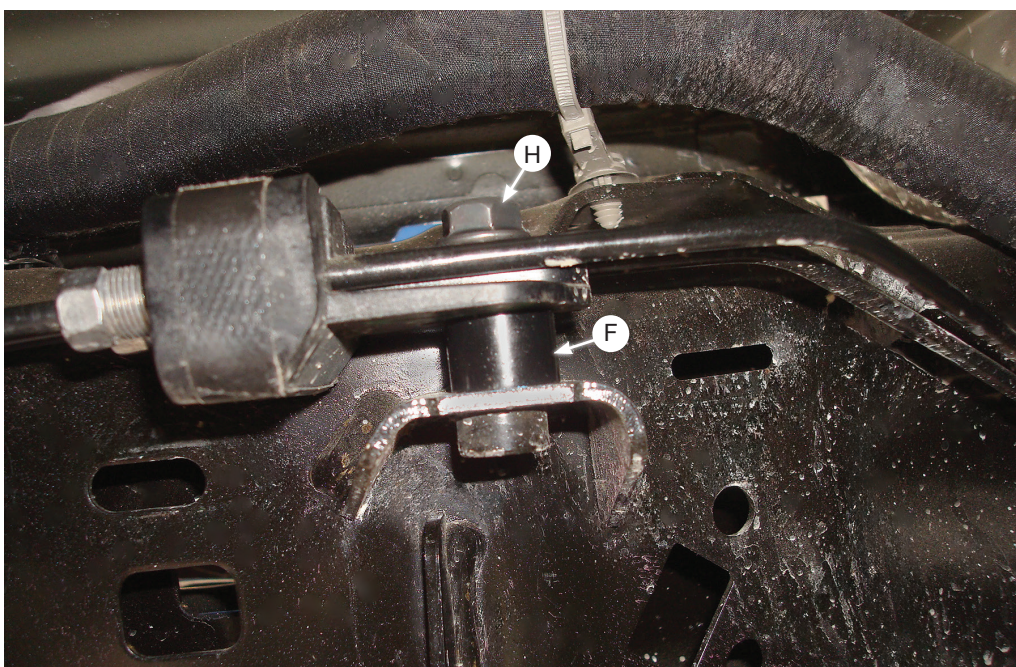

Fig. 6
5. The brake line holder that is on the inside of the left side frame, above the axle, will need to be spaced up to make room for the upper brace (Fig. 6). Do this by removing the stock bolt (discard), then insert the spacer (F) between the holder and bracket; finally attach the line holder back onto the bracket using the M8-1.25 x 35 hex flange bolt (H). Tighten securely.